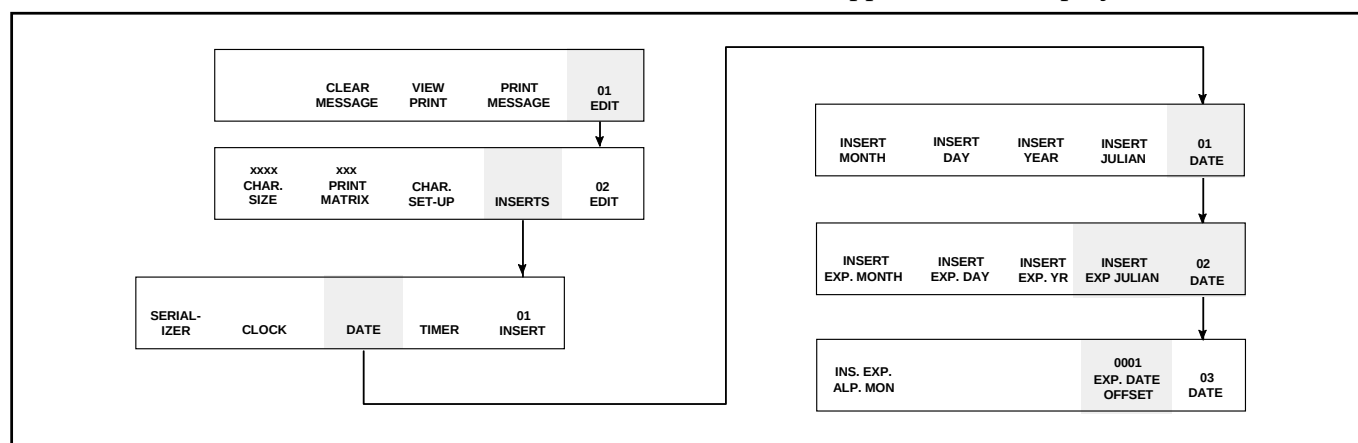

Figure 6-33. Accessing Frame <02 DATE>
1. Begin in Frame <02 DATE>. Refer to Figure 6-33.
4. Press **F5** to go to Frame <03 DATE>. Refer to Figure 6-33.